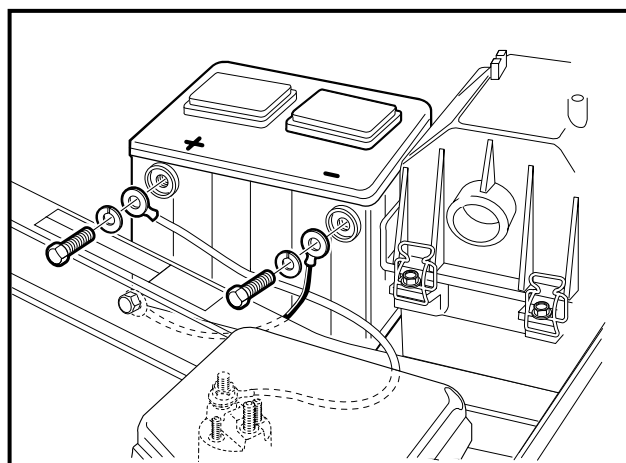

Figure 19 Battery
The battery in a Club Car vehicle is a 12-volt, low-maintenance battery that requires infrequent checks (**Figure 19**). Electrolyte level should be checked semiannually.
4. Use a flat blade screwdriver, and carefully remove the battery cell caps from the battery (**Figure 19**). **See following WARNING.**